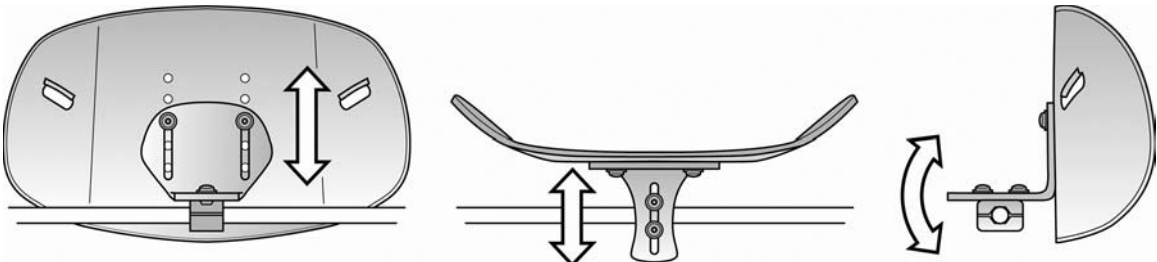

Fig. 7
6. Talon can be adjusted for height, depth, and angle. (Fig. 7)